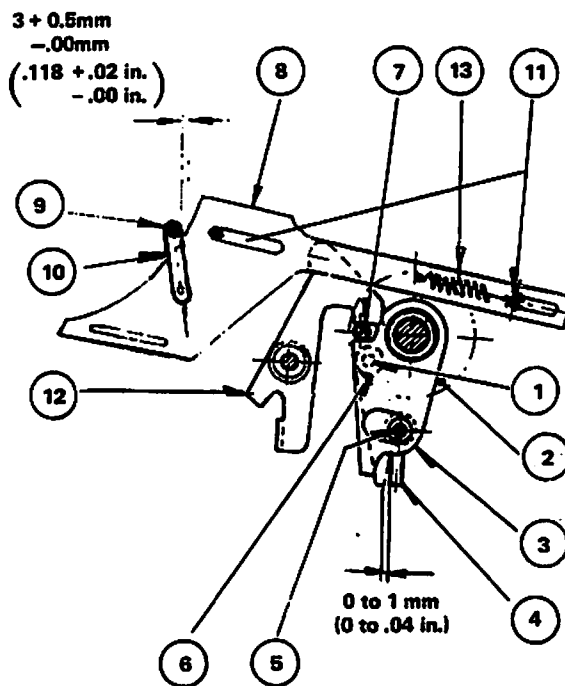

Figure 7
- Looseness of the eccentric (6, Fig. 7) – adjust as instructed in 7.4.1.
- Warpage of the trip rod (8, Fig. 7) – check as instructed in 7.4.2.
- Wear of lever (7, Fig. 7, Page 10). – This trouble is very uncommon and may occur after a number of operations much greater than that recommended. The lever (7) is to be replaced at our plant or by an FPE Field Service Engineer.
7.4.1 Adjustment of the Closing Spring Mechanical Lock (Figure 7)
Since this adjustment is to be made with the breaker closed, the eccentric (6, Fig. 7) should first be locked by tightening screw (1) in such a way as to position the lobe opposite the pin (7); then, with the breaker closed and springs discharged, perform the following operations:
- (a) Loosen screw (1) slightly.
- (b) Turn knob (2) counter-clockwise until the clearance between the lever (3) and the pin (4) of trip bar (5) is between 0 and .04 inch (0 and .1 mm).
- (c) Rotate the eccentric (6) until it is touching pin (7) of knob (2); lock it in this position by tightening the screw (1).
7.4.2 Checking the Trip Bar (8) for Opening the Breaker (Figure 7)